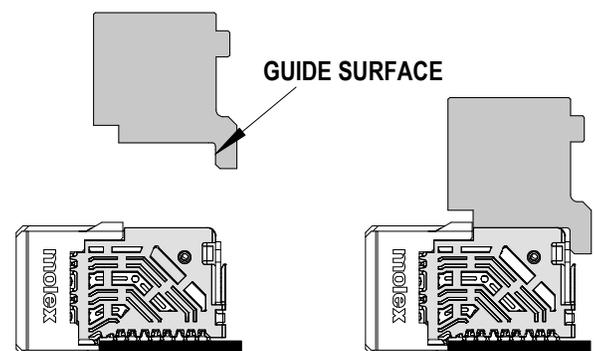

Figure 2
2. Place the application tool on top of the Daughtercard module with the back guide surface of the tool against the back of the Daughtercard module. See Figure 2.